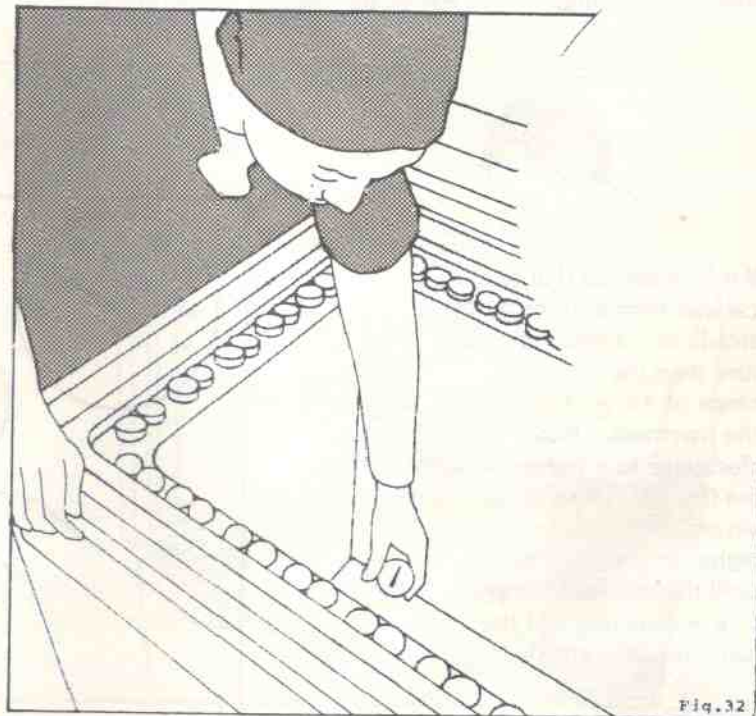

Fig. 30
2. Examine the display plate on the lid if it displays 'Refrigerator' function. If not, slide it out from its frame, reverse and put it back to display 'Refrigerator' function (fig. 30).